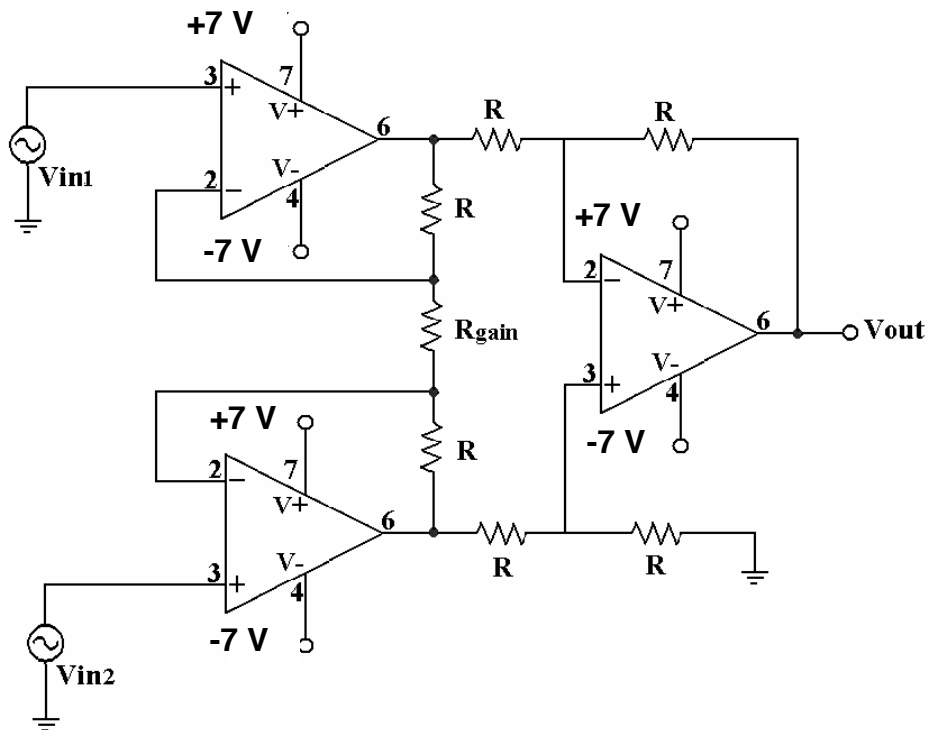

Fig. 3. Typical instrumentation amplifier circuit
*Instrumentation amplifier:* The instrumentation amplifier is a differential amplifier that has high input impedance and the capability of gain adjustment through the variation of a single resistor. A commonly used instrumentation amplifier is shown in Fig. 3.
6. For the instrumentation amplifier in Fig. 3 with power supplies  $\pm 7$  V, choose  $R$  to have  $V_{out} = 2(V_{in2} - V_{in1})$  if  $R_{gain} = 20$  k $\Omega$ .